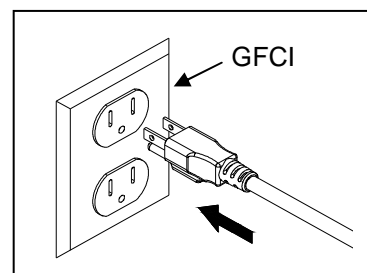

Fig. 16
12. Reassemble all of the components (Notes: Don't forget connect the low voltage power cables), place the unit into the water and connect to a proper power source. Fig. 16